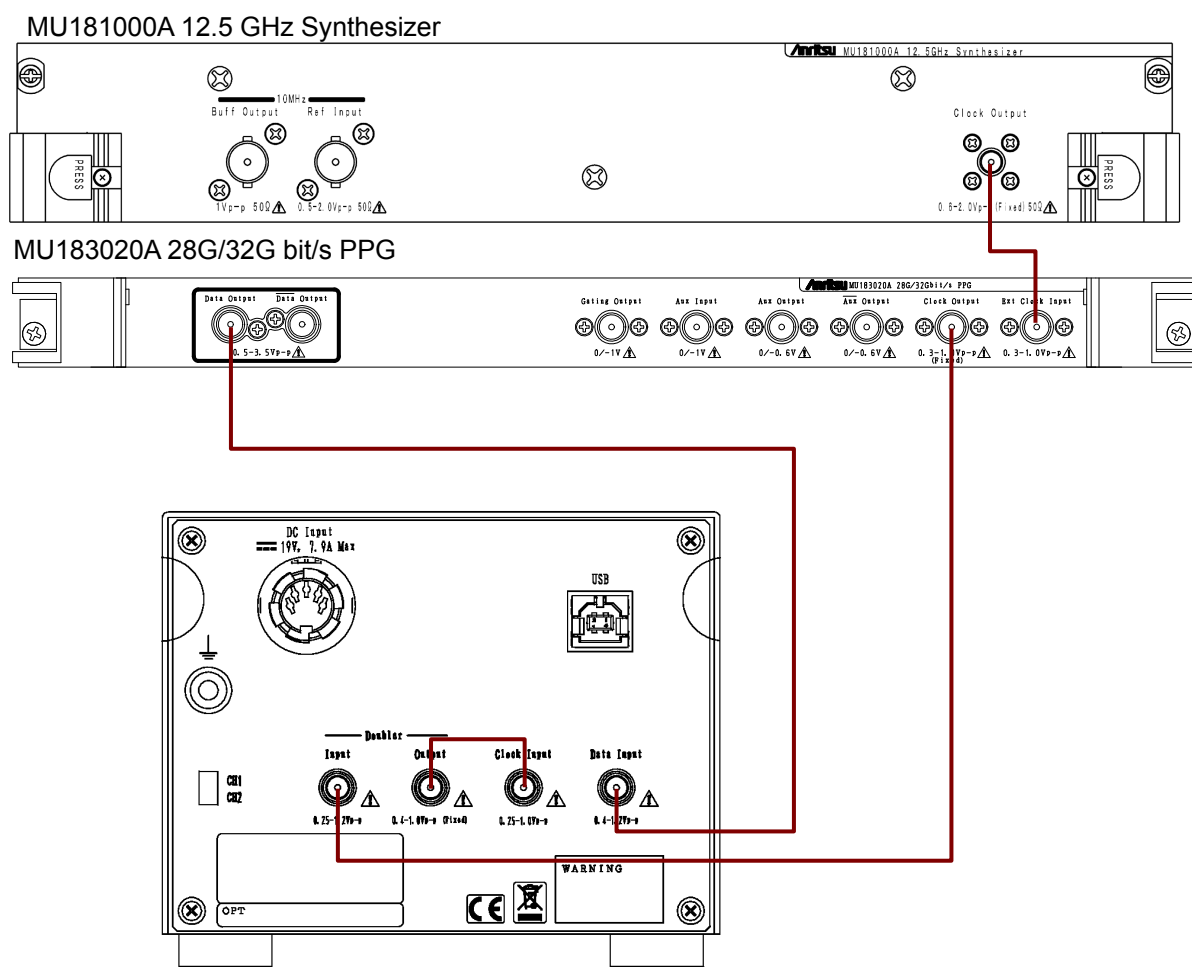

Figure 3.3-7 Connection to MU183020A 28G/32G PPG (Bit Rate 8 to 28 Gbit/s)
- For connection shown in Figure 3.3-7, set Output Clock Rate of MU183020A as **Half rate**. For MU183020A setting method, refer to Chapter 5 “Operation Method” in the *MU183020A 28G/32G bit/s PPG MU183021A 28G/32G bit/s 4ch PPG Operation Manual*.